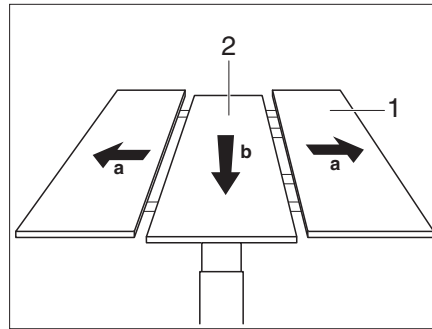

Fig. 99 Moving the middle part up
- Pull the outer parts (Fig. 99,1) of the table apart.
- Push the middle part (Fig. 99,2) of the table firmly downwards. The middle part is pushed upwards through the spring force.
- Push the middle part (Fig. 99,2) of the table firmly downwards. The middle part latches into the lower position.